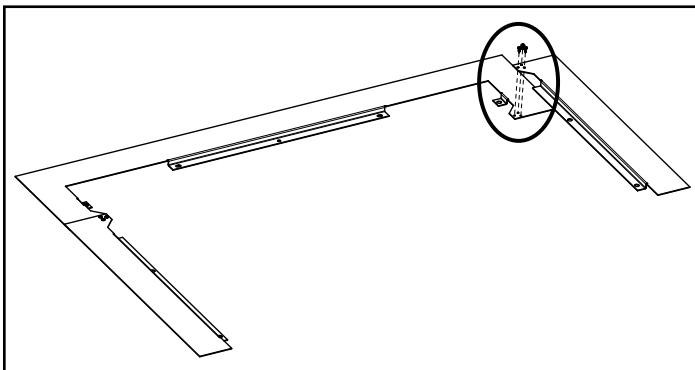

Figure 22.2
3. Repeat steps 1 and 2 for Surround Extension LH Side (Figure 22.2).